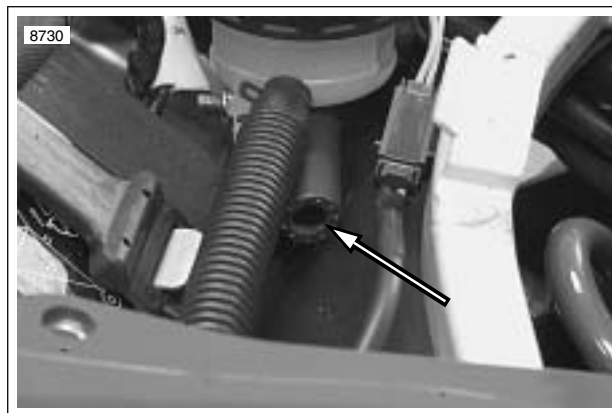

Figure 3-27. Transmission Vent Line
33. See Figure 3-27. Cut the two tie wraps holding transmission vent line and pull vent line out of frame leaving it attached to engine.